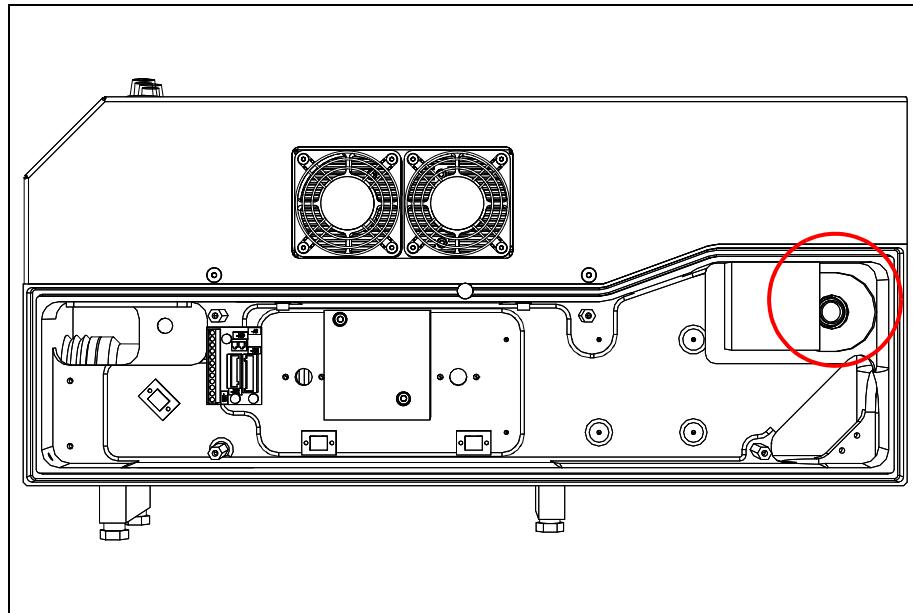

Figure 3.16 Connecting plug - X25
- **Connect a second shutter assembly** for enabling the laser beam externally to -X25 (see figure 3.16).